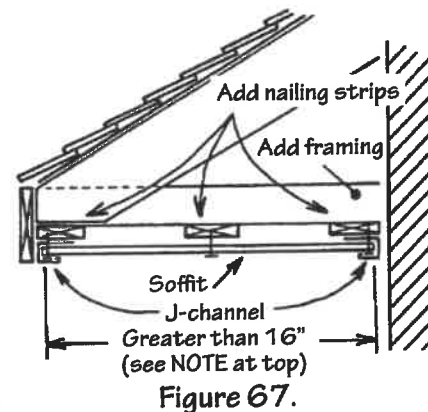

Figure 67.
NOTE: Nailing strips must be installed as shown in Fig. 67 if the eave span is greater than 16" (406mm), unless otherwise specified in the soffit manufacturer's instructions. In areas with high wind restrictions, nailing should not exceed 12" (305mm) on center, unless otherwise specified by the manufacturer.
3. In situations with two channels, (Fig. 67), flex the panel between the two channels installed. It is critical in this application that the installed nailing strips are wide enough (4" [102mm]) to allow a fastener to attach to the soffit. Make sure the panel is perpendicular to the wall when fastening.